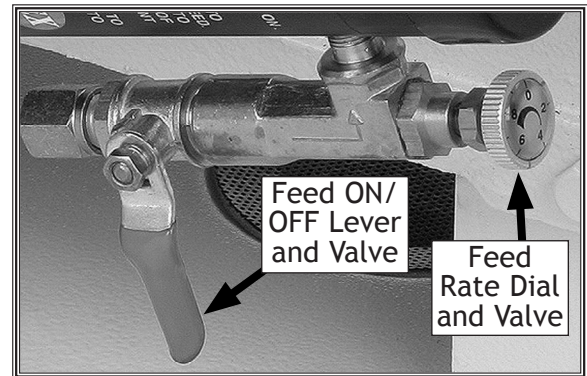

Figure 40. Feed rate controls.
4. Close the feed ON/OFF valve to lock the headstock and blade a few inches above the workpiece (see **Figure 40**).